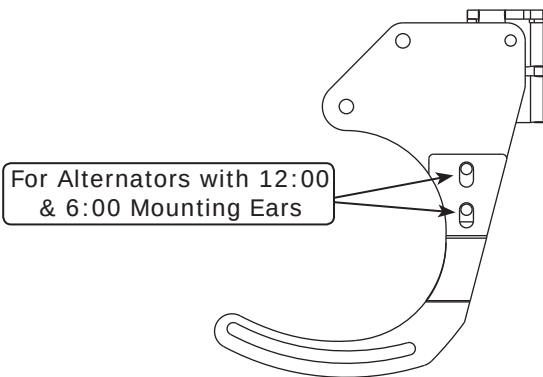
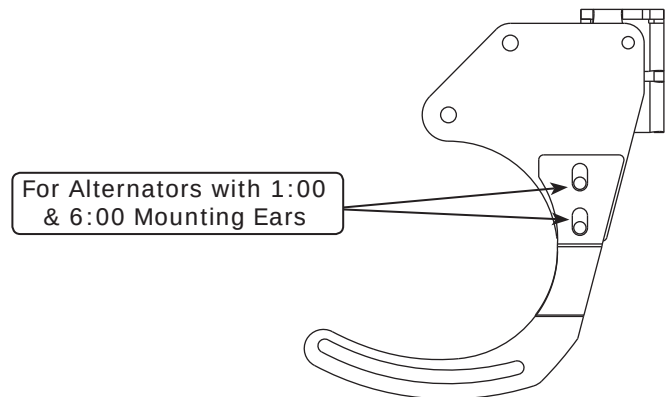

Figure 1
Figure 2
1. This bracket kit requires a harmonic balancer with (2) wide grooves. **NOTE: An add-on kit for single-groove harmonic balancers (Part # 732104) is available through Vintage Air.**
2. This bracket kit requires a water pump pulley with (2) wide grooves. **NOTE: A (2) wide-groove water pump pulley for long-nose water pumps (Part # 732109) is available through Vintage Air.**
4. This bracket kit is designed to accept OEM alternators with mounting ears at either 12:00 and 6:00 or 1:00 and 6:00. For alternators with mounting ears at 12:00 and 6:00, use the alternator adjustment bracket as shown in Figure 1, below. For alternators with mounting ears at 1:00 and 6:00, use the alternator adjustment bracket as shown in Figure 2, below.
NOTE: The installed compressor is shown in Figure 2, below. Do not tighten the bolts at this time.